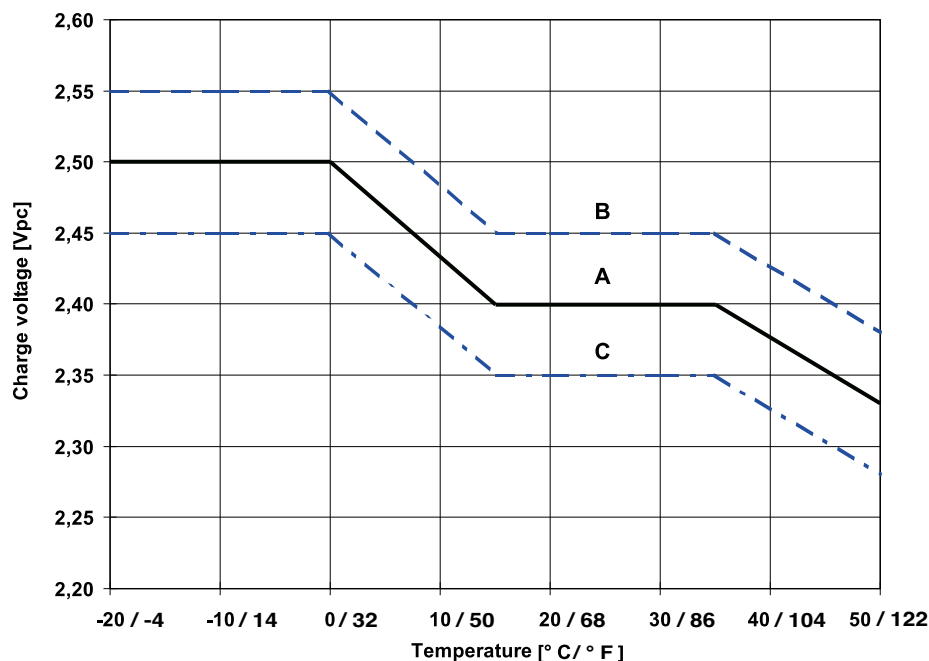

Fig. 1: Charge voltage vs. temperature for solar mode. Charge modes:
Recommended charge voltages for cyclical application: See fig. 1 and item 2.8.
I-phase = up to voltage acc. to fig.1 at 20 °C / 68 °F
I-phase = up to voltage acc. to fig. 1 at 20 °C / 68 °F
When recharging acc. to fig.1 the actual value of the alternating current is occasionally permitted to reach 10 A (RMS) / 100 Ah C_{10} -capacity. In a fully charged state during float charge the actual value of the alternating current must not exceed 5 A (RMS) / 100 Ah C_{10} -capacity.
The temperature related adjustment has to be carried out acc. to fig. 1. An adjustment of the charge voltage must not be applied within a temperature range 15 °C to 35 °C / 59 °F to 95 °F.